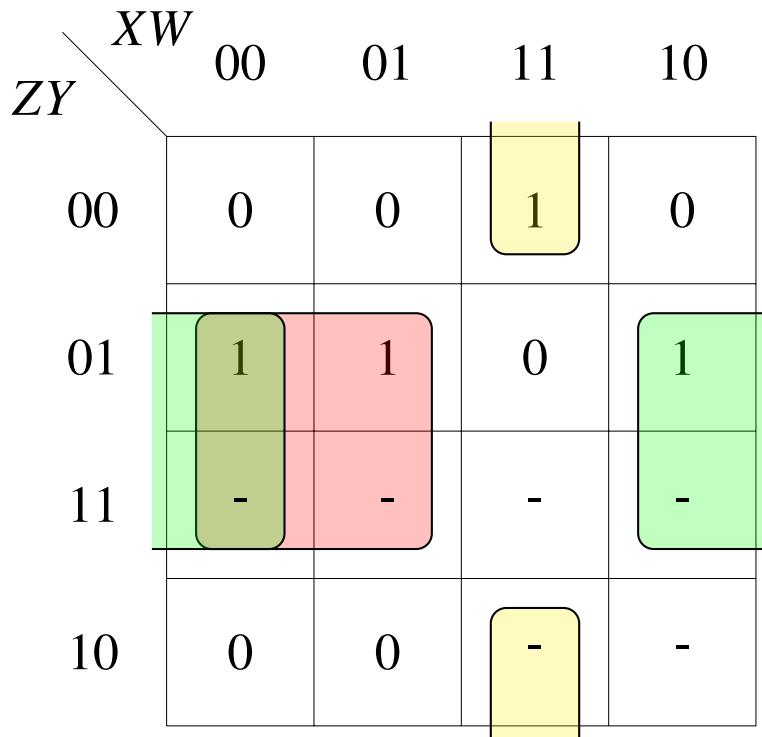

Fig. 4.7: K-map for  $C$  with don't cares
4. The revised K-map for C is available in Fig 4.7 Show that